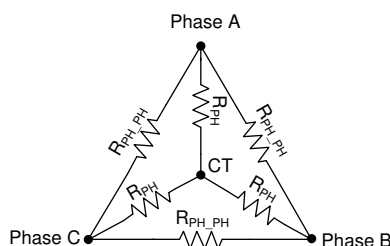

Figure 3-2. Motor Resistance
Step 4: If the motor does not have a datasheet, then measure the phase to phase resistance across any two phases using a Digital Multimeter and calculate the phase resistance by dividing the phase to phase resistance by 2 as shown in Equation 2. The motor phase resistance refers to the equivalent phase to center tap resistance, R_{PH} as shown in Figure 3-2. This measurement holds good for both star wound and delta wound motors.